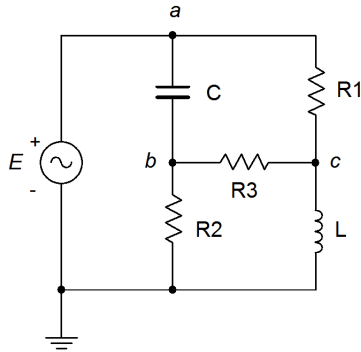

Figure 6.10
19. Use mesh analysis to find the current through resistor R3 in Figure 6.10. $E = 60\angle 0^\circ$, $R_1 = 1\text{ k}\Omega$, $R_2 = 2\text{ k}\Omega$, $R_3 = 3\text{ k}\Omega$, $X_C = -j10\text{ k}\Omega$, $X_L = j20\text{ k}\Omega$.
20. Given the circuit in Figure 6.10, use mesh analysis to determine v_{bc} . $E = 120\angle 90^\circ$, $R_1 = 100\text{ k}\Omega$, $R_2 = 20\text{ k}\Omega$, $R_3 = 10\text{ k}\Omega$, $X_C = -j5\text{ k}\Omega$, $X_L = j20\text{ k}\Omega$.
53. Given the circuit in Figure 6.10, use nodal analysis to determine v_{bc} . $E = 120\angle 0^\circ$, $R_1 = 1\text{ k}\Omega$,